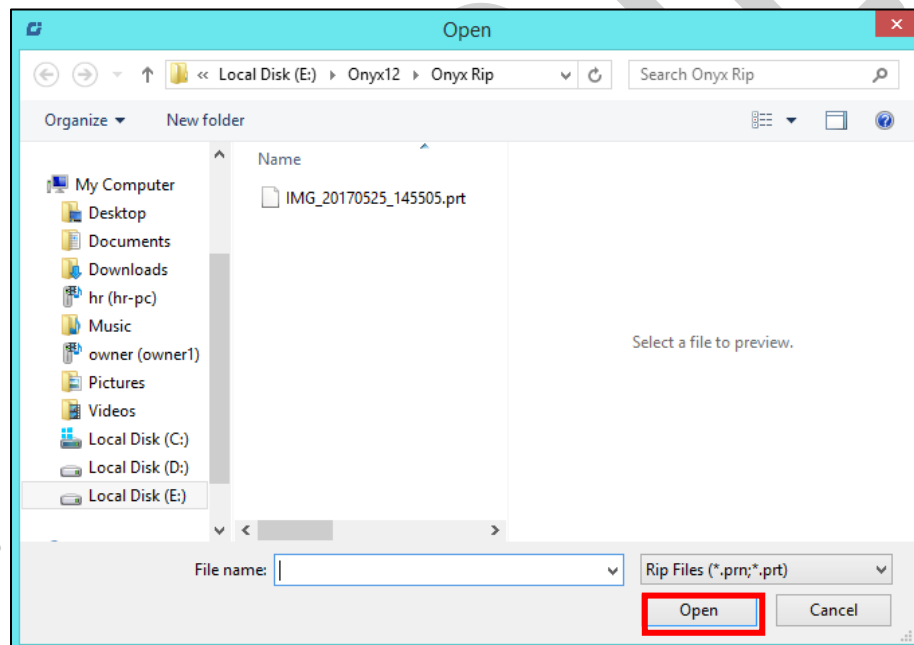

Fig 35: Adding the Job
Step 2: Navigate to the location where the image file with extension **".prt"** and **".prn"** is stored (Refer to Fig 35).